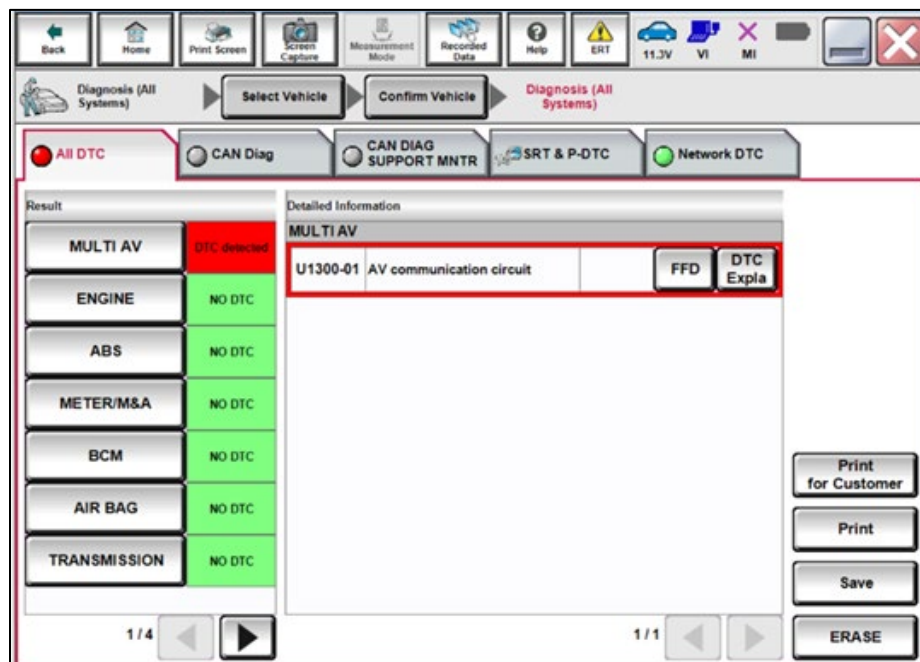

Figure 37
57. Check for DTCs (Figure 37).